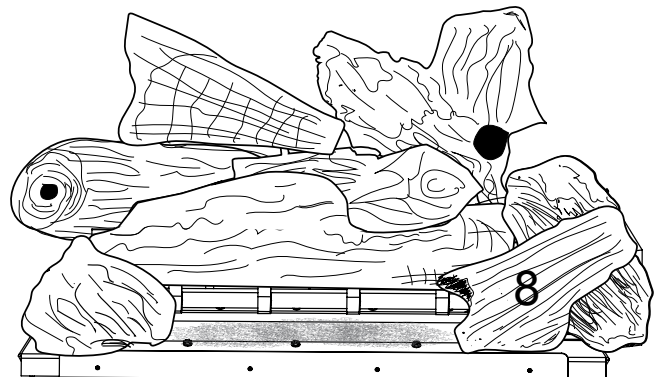

Figure 5.18 - Log #8 Log Placement
9. Hold log #8 with the wider end to the left. Place it against the first tine on the grate on the right and rest the pointed end over log #2. See Figure 5.18.